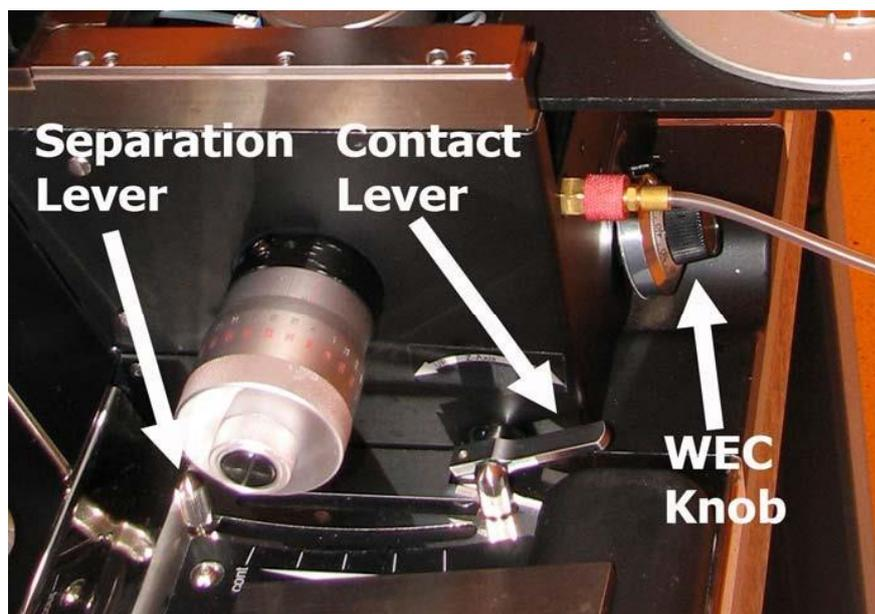

Fig. 6 Alignment Stage Left Side
- b. For soft, hard, low vacuum and vacuum contact modes, the exposure process will start once the substrate is brought into contact with the mask using the CONTACT LEVER (Fig. 6).